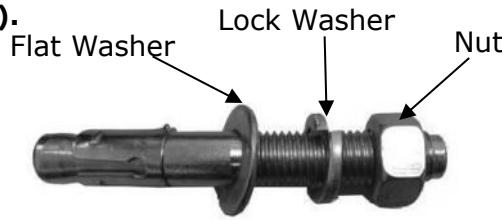

Fig 15
D. Install Cross Beams (See Fig. 14, Fig. 15).
1. Prepare the Anchor Bolts (See Fig. 15).